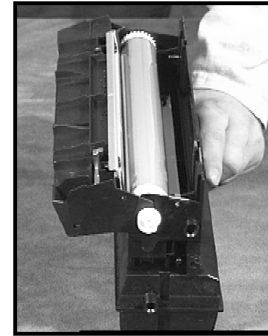

Figure 4
3. Separate the two halves by folding them down. The drum axes have flat notches on them that allow the cartridge to be separated after the two halves have been folded (fig. 4).